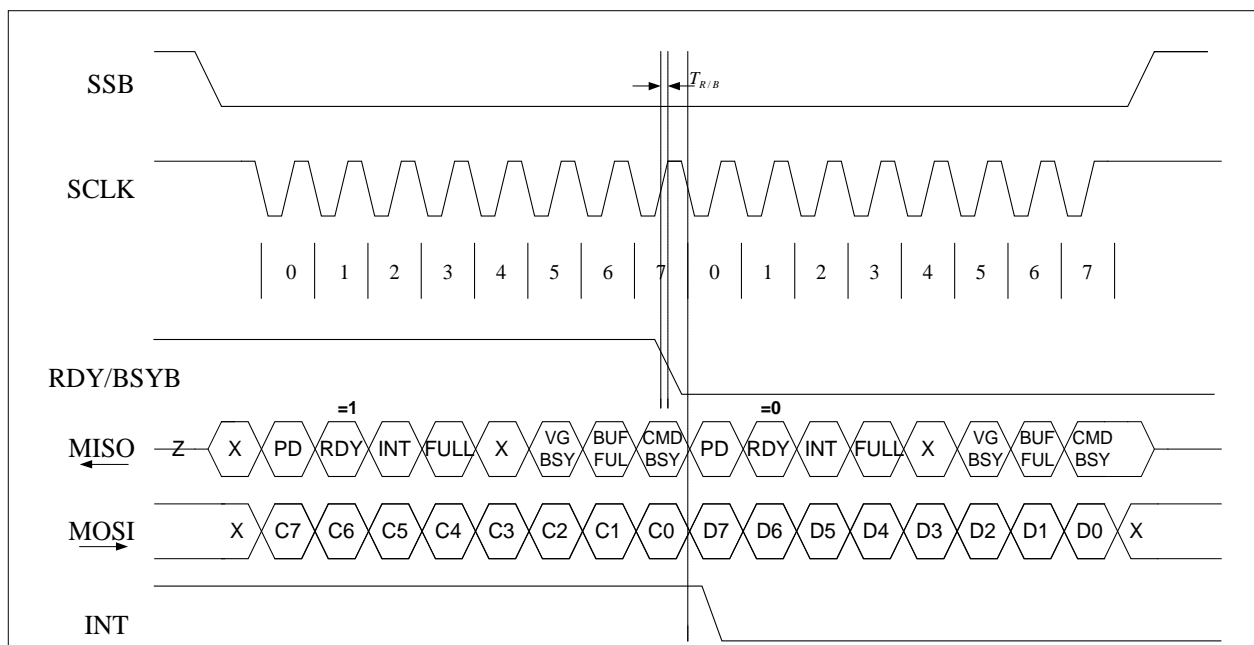

Figure 6-3 SPI Transaction Ignoring RDY/BSYB
The INT pin will go low to indicate (1) data overrun/overflow when sending data to the ISD15C00; or (2) invalid data from ISD15C00. See Figure 6-3 for the timing diagram.